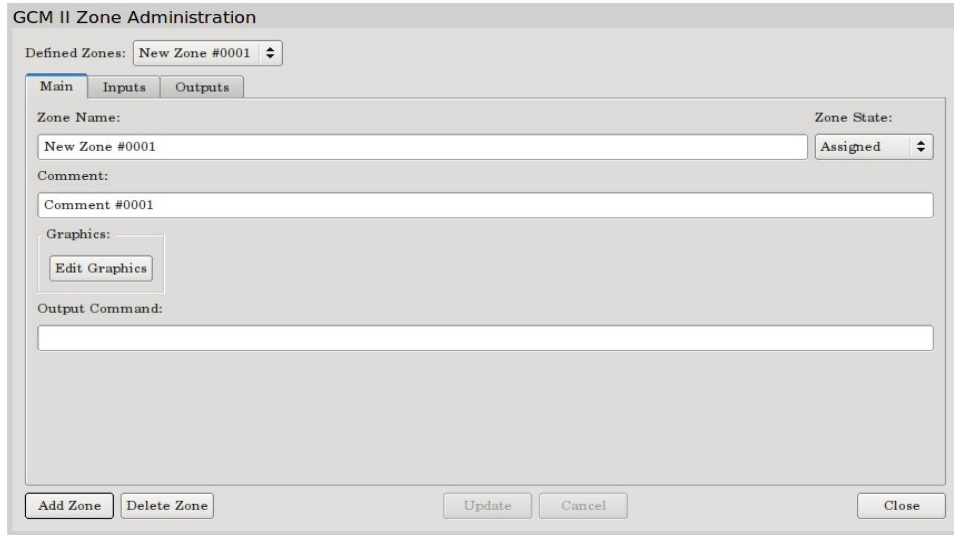

Figure 47 – Add Zone
Select the “Add Zone” button to create a new zone. For a new system, #0001 will be displayed in the “Defined Zones” tab, New Zone #0001 will be displayed in the “Zone Name” field and Comment #0001 will be displayed in the “Comment” field as shown in Figure 47. If it is an existing system it will start with the next number in line from the last zone created. The next time the “Add Zone” button is selected it will display #0002 and increase every time the button is selected. The GCM II is capable of having 1024 zones. The zones will be listed in alphabetical order so for numeric order there must be a four (4) digit number. Once zones are defined they will be listed in the “Defined Zones” field pull down tab.